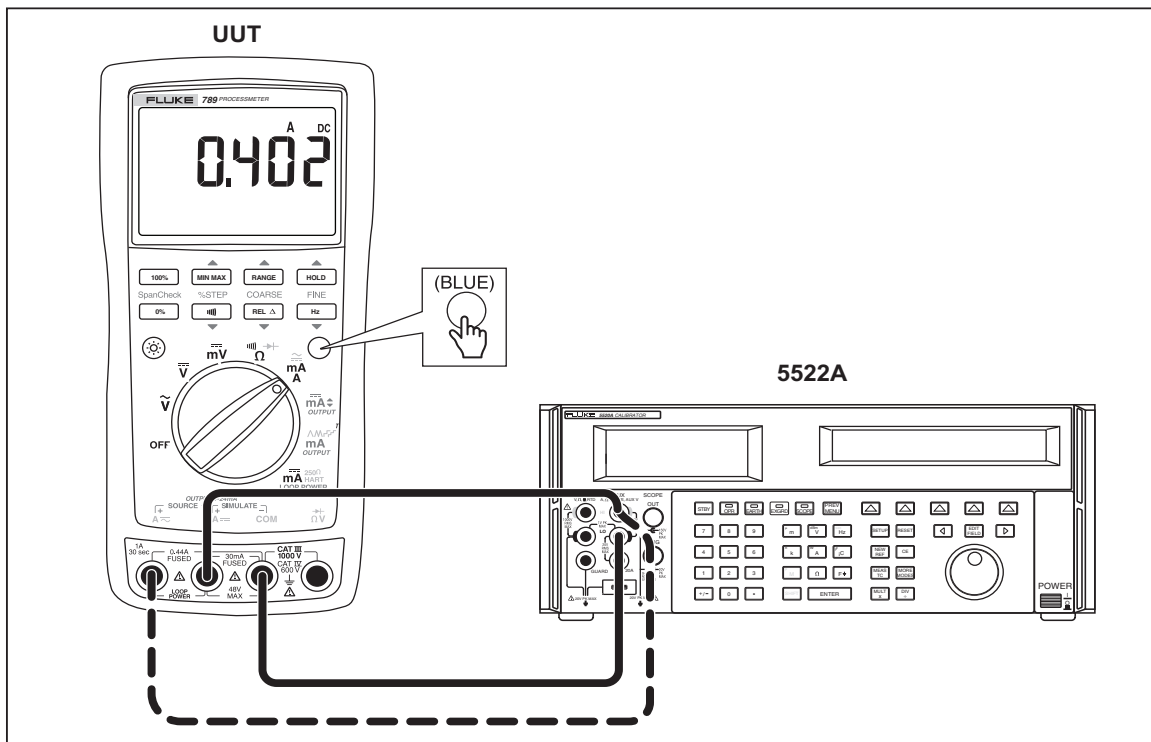

Figure 4. Current Measurement Test Connections
3. Connect the calibrator to the **COM** and mA terminals on the UUT as shown in Figure 4.